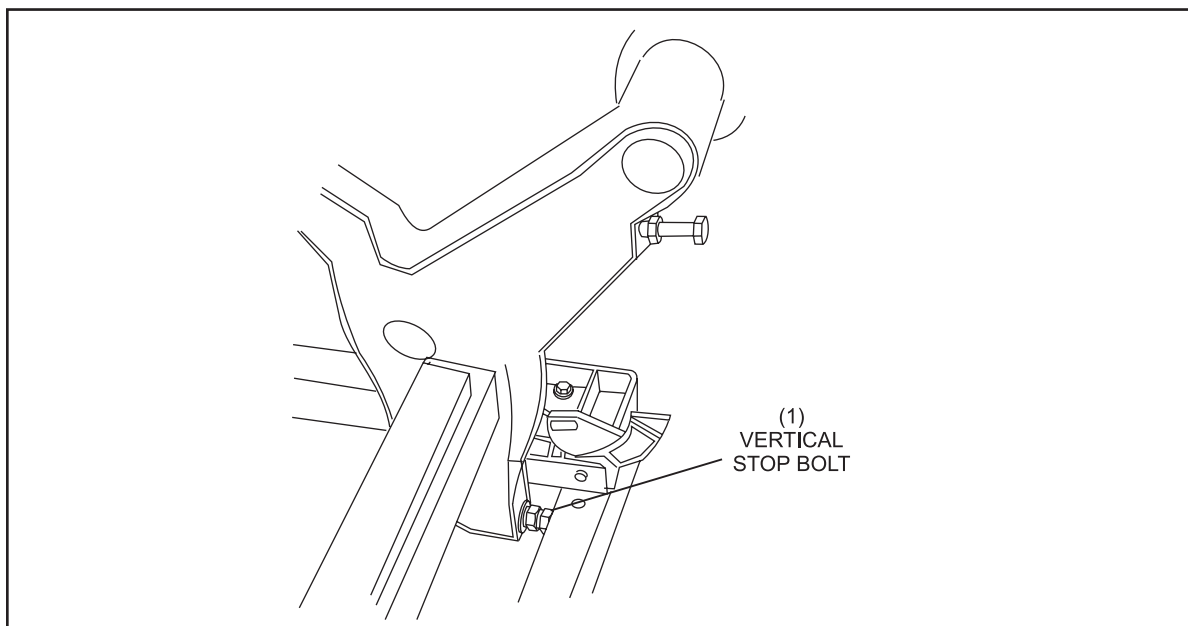

Figure 5-39. Adjust Pin Holders
1. To adjust all ten pin holders forward or backward, loosen the jam nut on the vertical stop bolt mounted on the rear right swing shaft. Refer to *Figure 5-39*. This bolt stops the vertical rotation of the rear pin holder swing shaft when the table goes down for a new pin setting stroke.